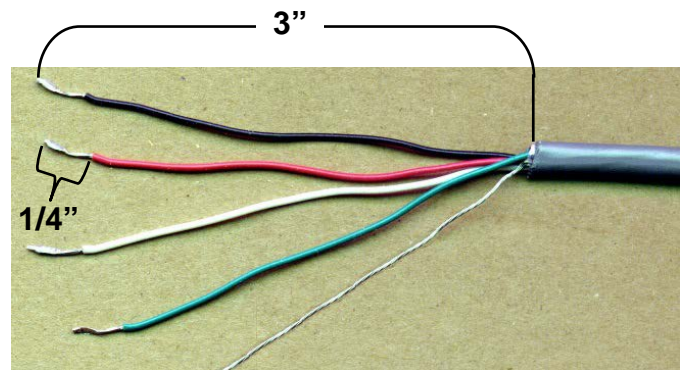

Figure No. 17
4. Referring to Figure No. 17, remove 3 inches of the outer insulation jacket of the load cell cable.